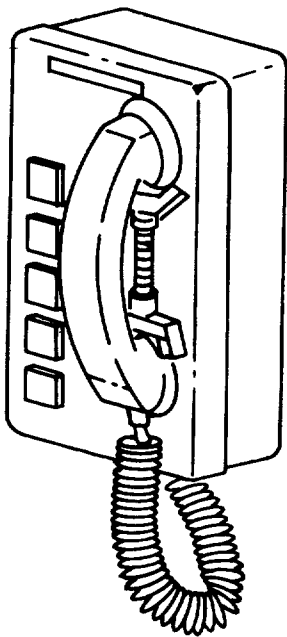

Figure 1-5. Telephone TA-676()/G
k. *Telephone TA-676()/G*. Refer to figure 1-5. A telephone set TA-676()/G is mounted on the electrical duct extension of the corner console opposite the safe. It is part of an intercom system in an OUTS complex and requires a switchboard for operation. The telephone connection passes through the end wall of the central opposite the cabinet safe. Power is supplied to the telephone by a receptacle on the electrical duct extension.